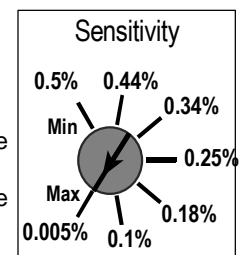

FIG. 2
- A potentiometer for adjustment of the linear sensitivity (Δf) for the loop A : from 0.005% to 0.5 % ; (see Fig. 2)
- A potentiometer for adjustment of the linear sensitivity (Δf) for the loop B : from 0.005% to 0.5 %. (see Fig. 2)